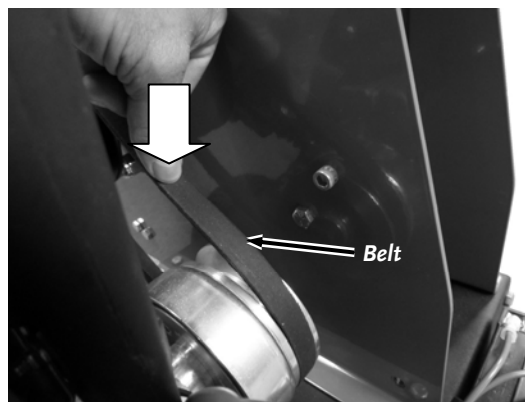

Figure 18
5. Install the new Belt and adjust the Tension Bolt until the Belt only deflects 1/2" when approximately 3 lbs of pressure is applied (**Figure 18**).